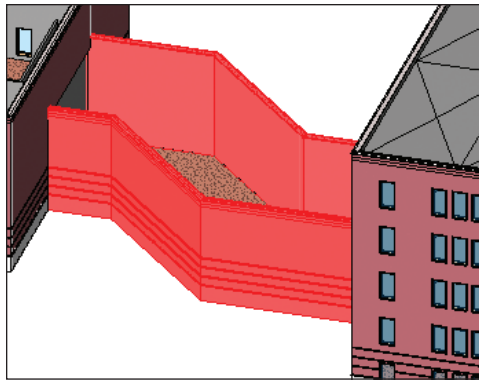

FIGURE 7.20 Select the six walls to be modified.
2. Select the six corridor walls, as shown in Figure 7.20.